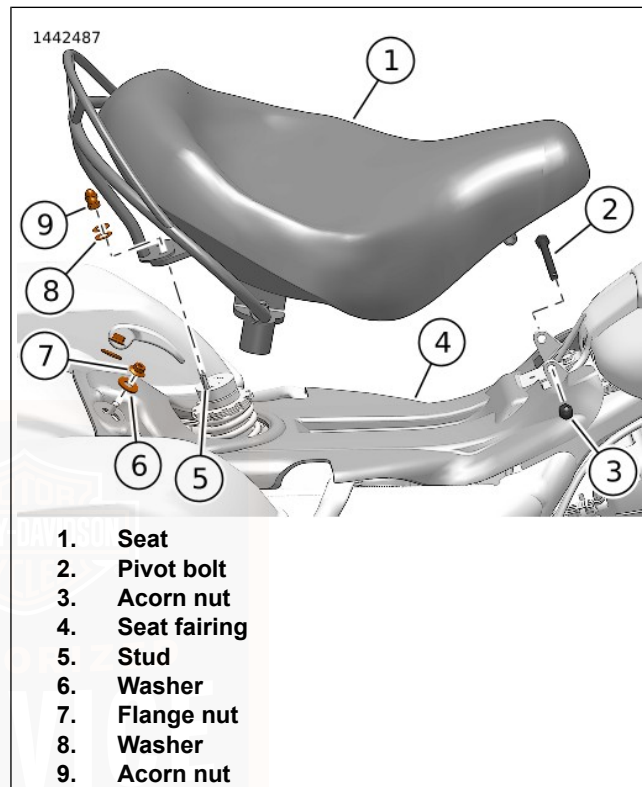

Figure 101. Seat Attachment (Spring mount)
1. See Figure 101. Remove seat.
- a. Remove acorn nuts (9) and washers (8).
- b. Remove acorn nut (3).
- c. Remove pivot bolt (2).
- d. Remove seat (1).
- a. Remove flange nuts (7) and washers (6).
- b. Remove seat fairing (4).
1. See Figure 101. If removed, install seat fairing.
- a. Install washers (6) and flange nuts (7).